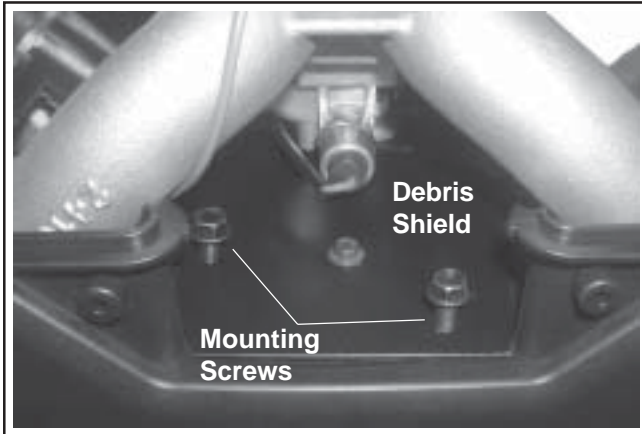

Figure 9-37. Debris Shield Details (Two-Barrel Carburetor Model Shown).
8. **Two-Barrel Carburetor Models Only:** Remove the two screws securing the debris shield to the blower housing. The wiring harness is attached to the underside of shield. See Figure 9-37.